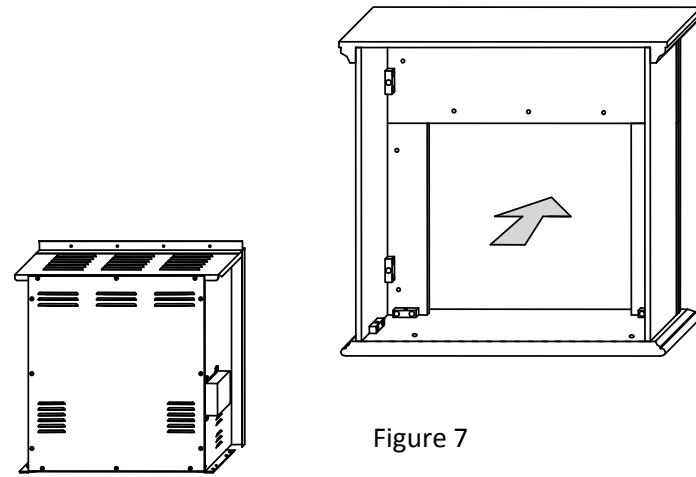

Figure 7
Put the insert in place and install the insert to the mantel. Attach the top of the insert to the mantel with 3 **SCREWS** (W). Attach the **MOUNTING CLIPS** on the bottom of the mantel with 2 **SCREWS** (V). See Figure 7 and 8.